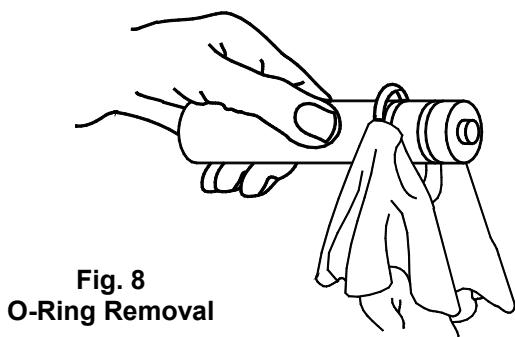

Fig. 8
- d. Remove the o-rings from the spigot plunger by grasping the part with one hand and with a dry cloth in the other hand, squeeze the o-ring upward. When a loop is formed, grasp the o-ring with the other hand and roll it out of its groove and off the part (Fig. 8).